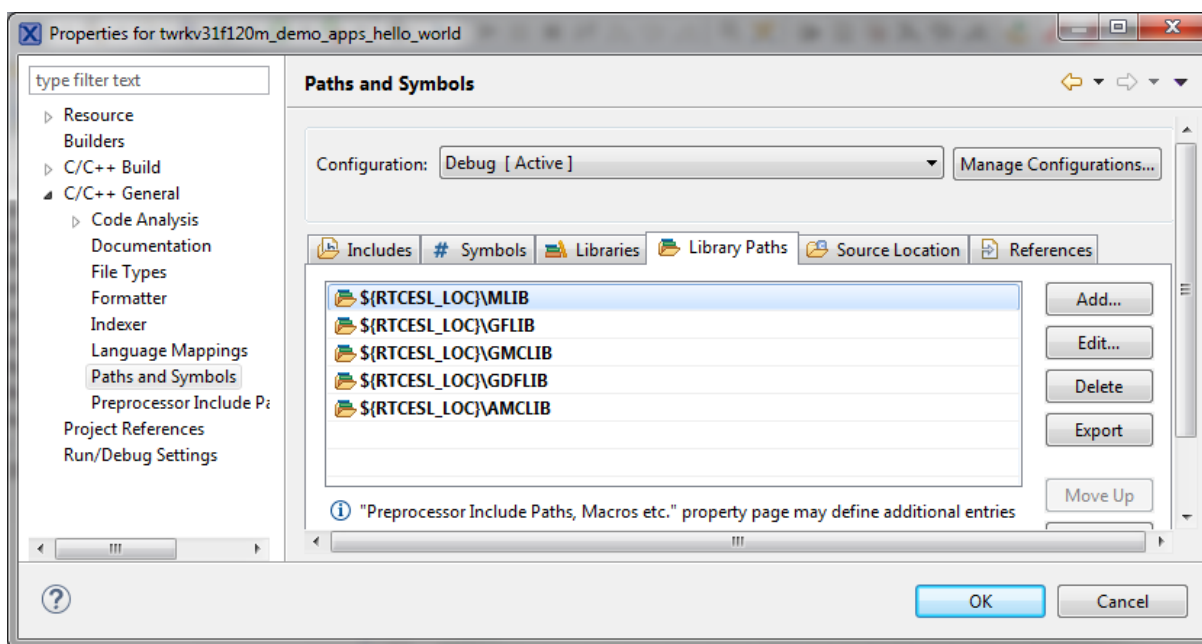

Figure 1-7. Library paths
3. In the right-hand dialog, select the Library Paths tab. See Figure 1-7.
14. Click OK, you will see the paths added into the list. See Figure 1-7.